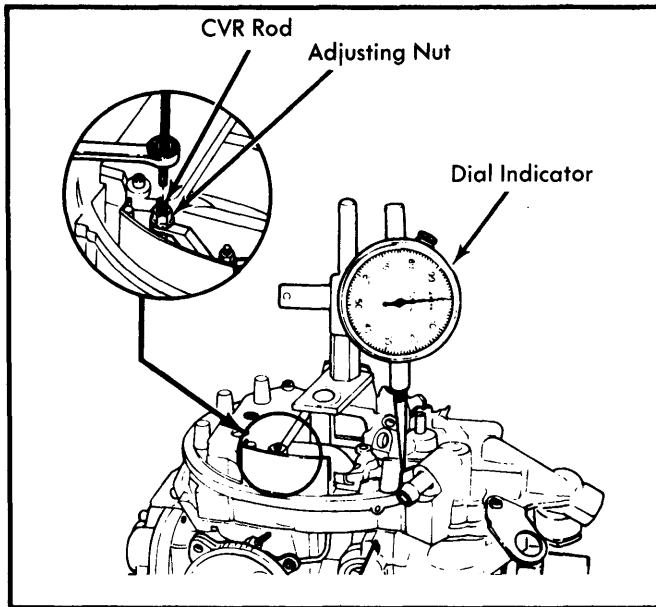

Fig. 5 Adjusting Control Vacuum Regulator
- 1) With dial indicator installed, push down on control vacuum rod until it bottoms against seat. Measure downtravel of rod on dial indicator. See Fig. 5.